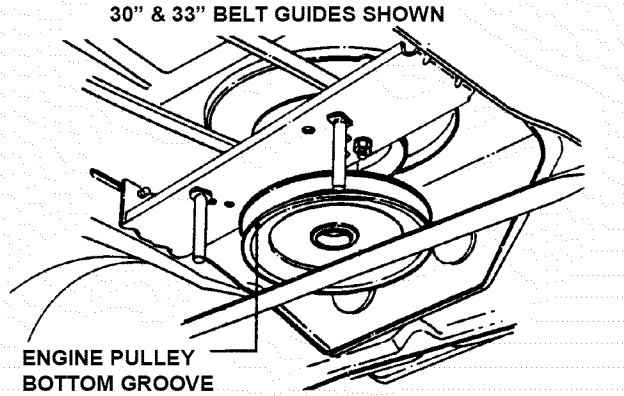

FIGURE 4.30
10. Slide deck forward. Remove deck drive belt from engine pulley bottom groove. See Figure 4.30.